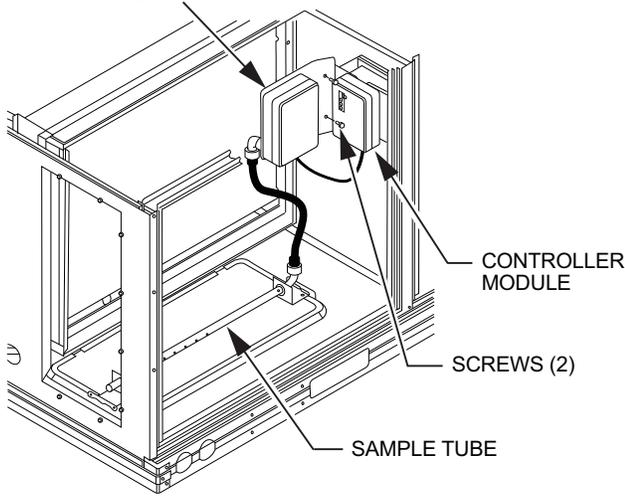

Fig. 45 — Return Air Smoke Detector Operating Position
- Rotate the detector plate so the sensor is facing outwards and the sampling tube connection is on the bottom. See Fig. 45.